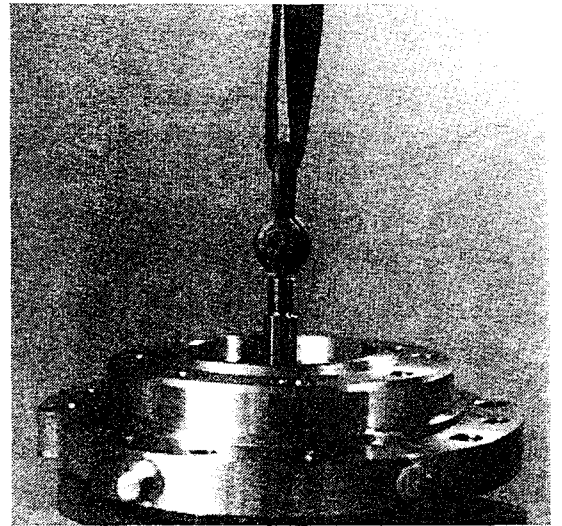

Figure 21
8. Thread a M10 eye bolt into the end of the inner magnet shaft and mechanically lift the rear casing away from the frame adapter [Fig. 21]. During this procedure remember that strong forces are working to keep the inner and outer magnets together. **BE CAREFUL TO AVOID TRAPPING YOUR FINGERS BETWEEN THE REAR CASING AND FRAME ADAPTER.**